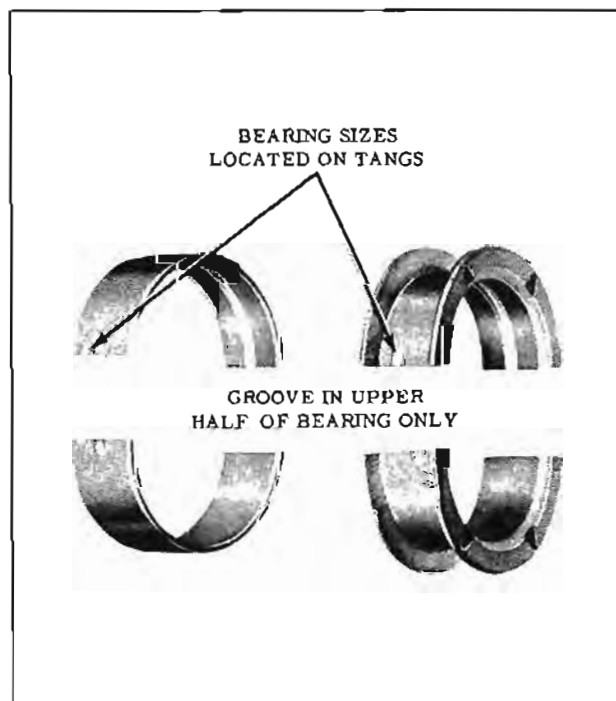

Fig. 8-150 Main Bearing Size Location
**IMPORTANT:** The upper and lower shells must be installed in pairs. Sizes of the bearings are located on the tang. (Fig. 8-150)